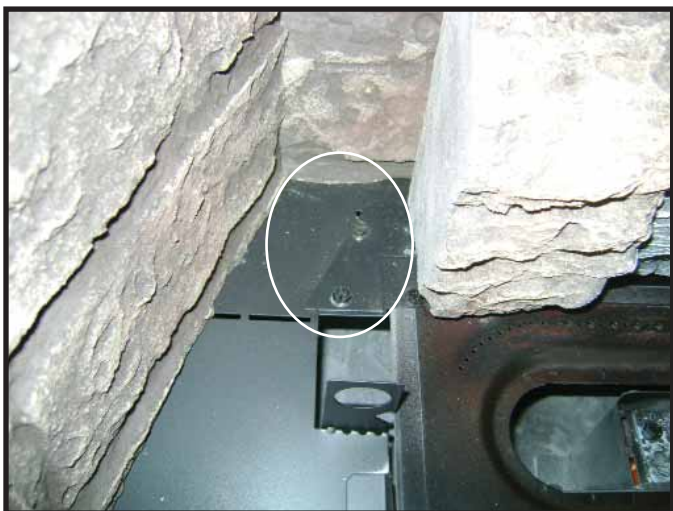

Figure 3.7 Remove Screws from Log Tabs
6. Remove screws from log tabs on both ends of the rear log and remove the log. See Figure 3.7.